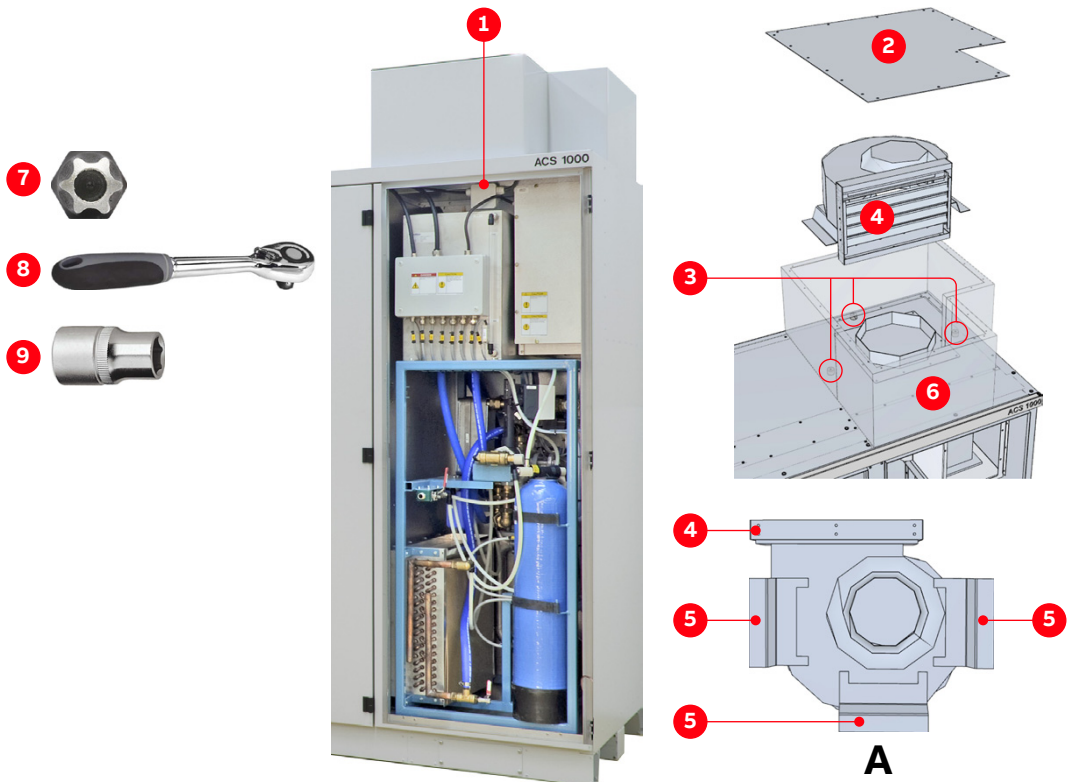

Figure 11-10: Water cooling unit – replacing the redundant fan – bottom view (A)
1. Disconnect the power supply cable of the fan in the terminal box (1 in Fig. 11-10) of the water cooling compartment.
2. Remove the cover (2 in Fig. 11-10).
3. If there is not enough room to lift the fan up, remove the plate in front of the fan (6 in Fig. 11-10).
4. Unscrew the fan from the vibration dampeners (3 in Fig. 11-10).
5. Unscrew the baffle blade louver (4 in Fig. 11-10) and the mounting supports (5 in Fig. 11-10) and attach them to the new fan. Install the new fan in reverse order of removal.